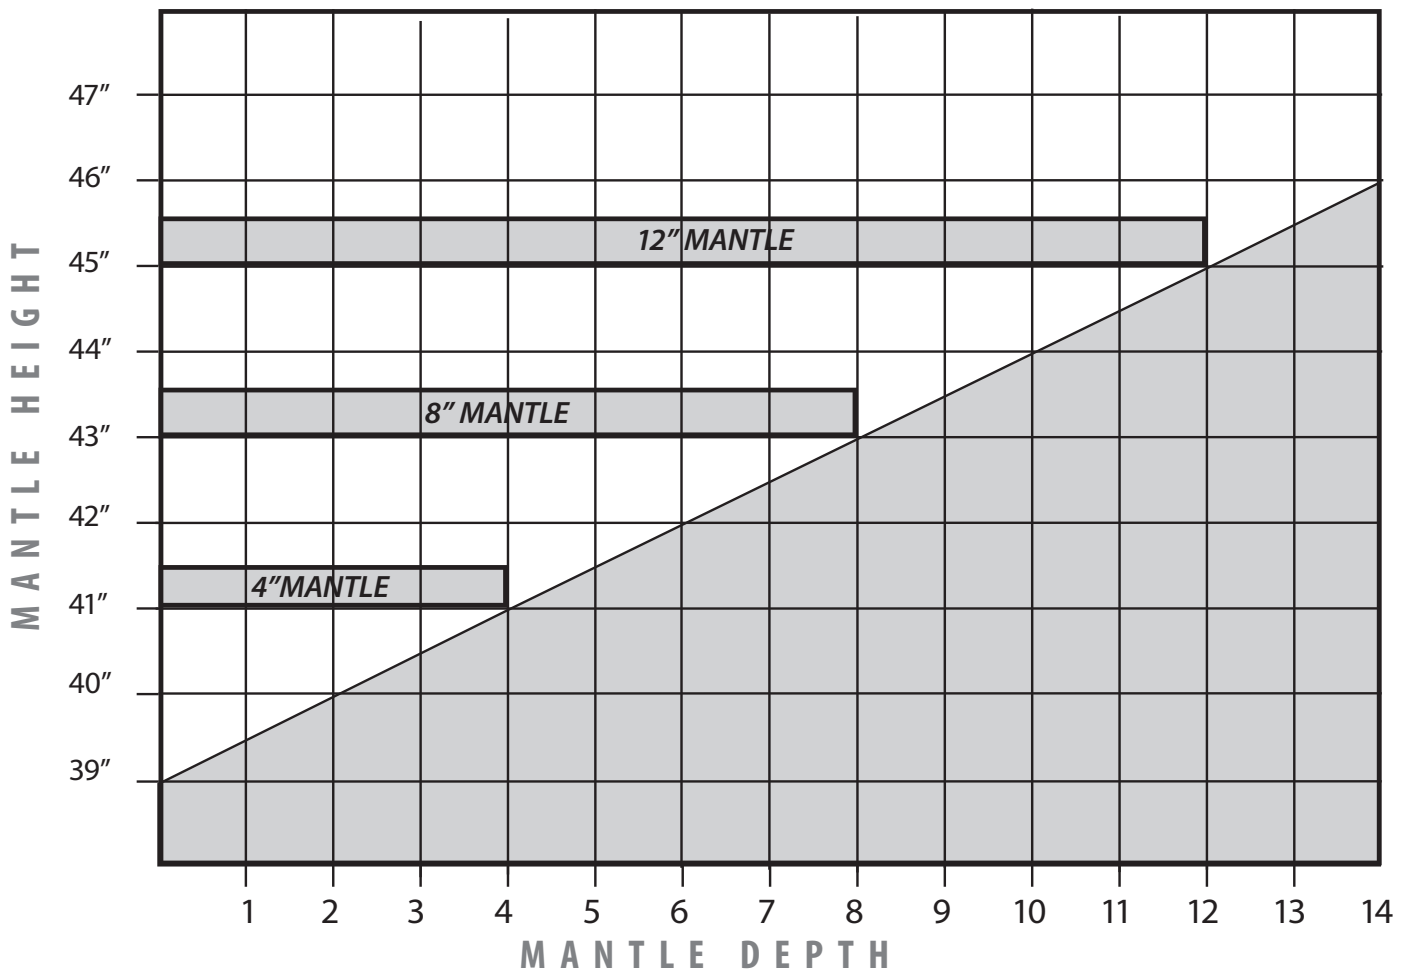
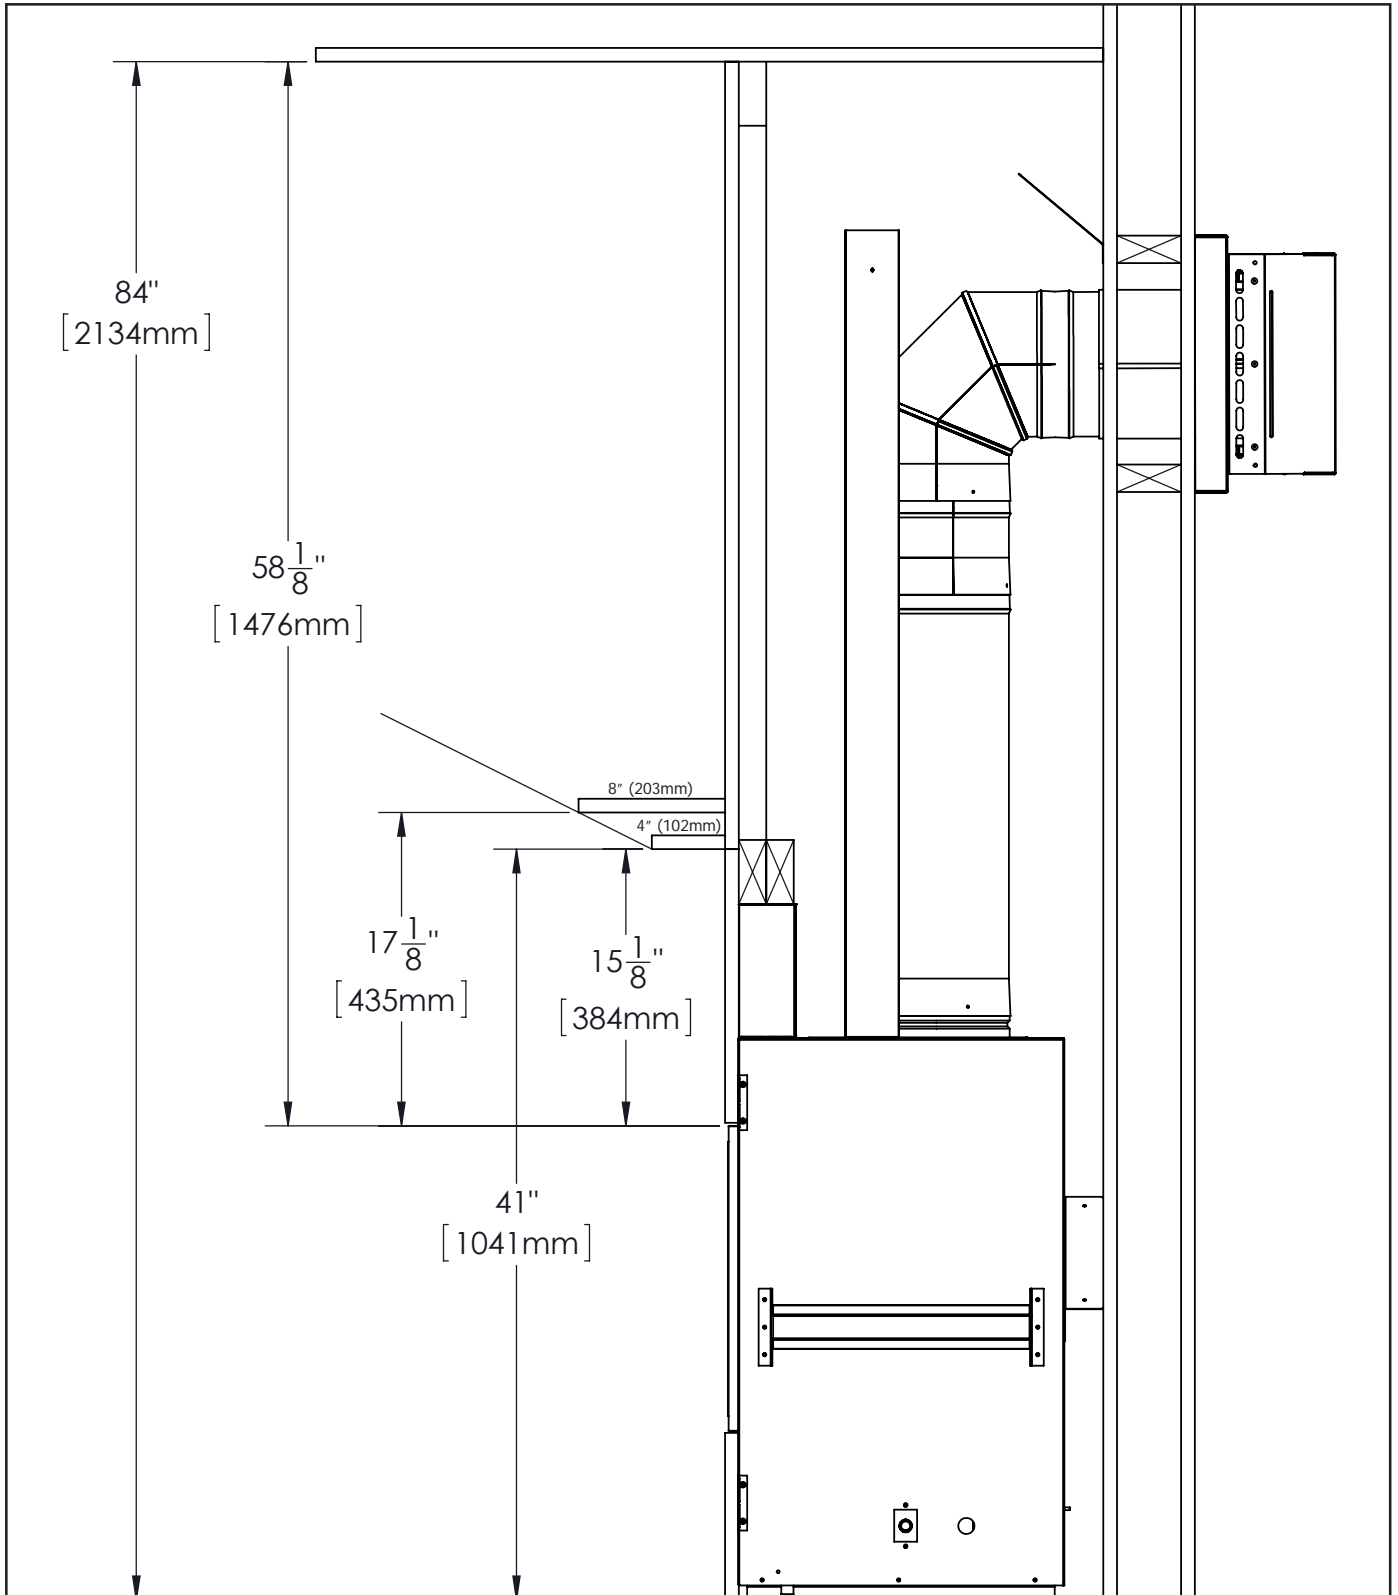
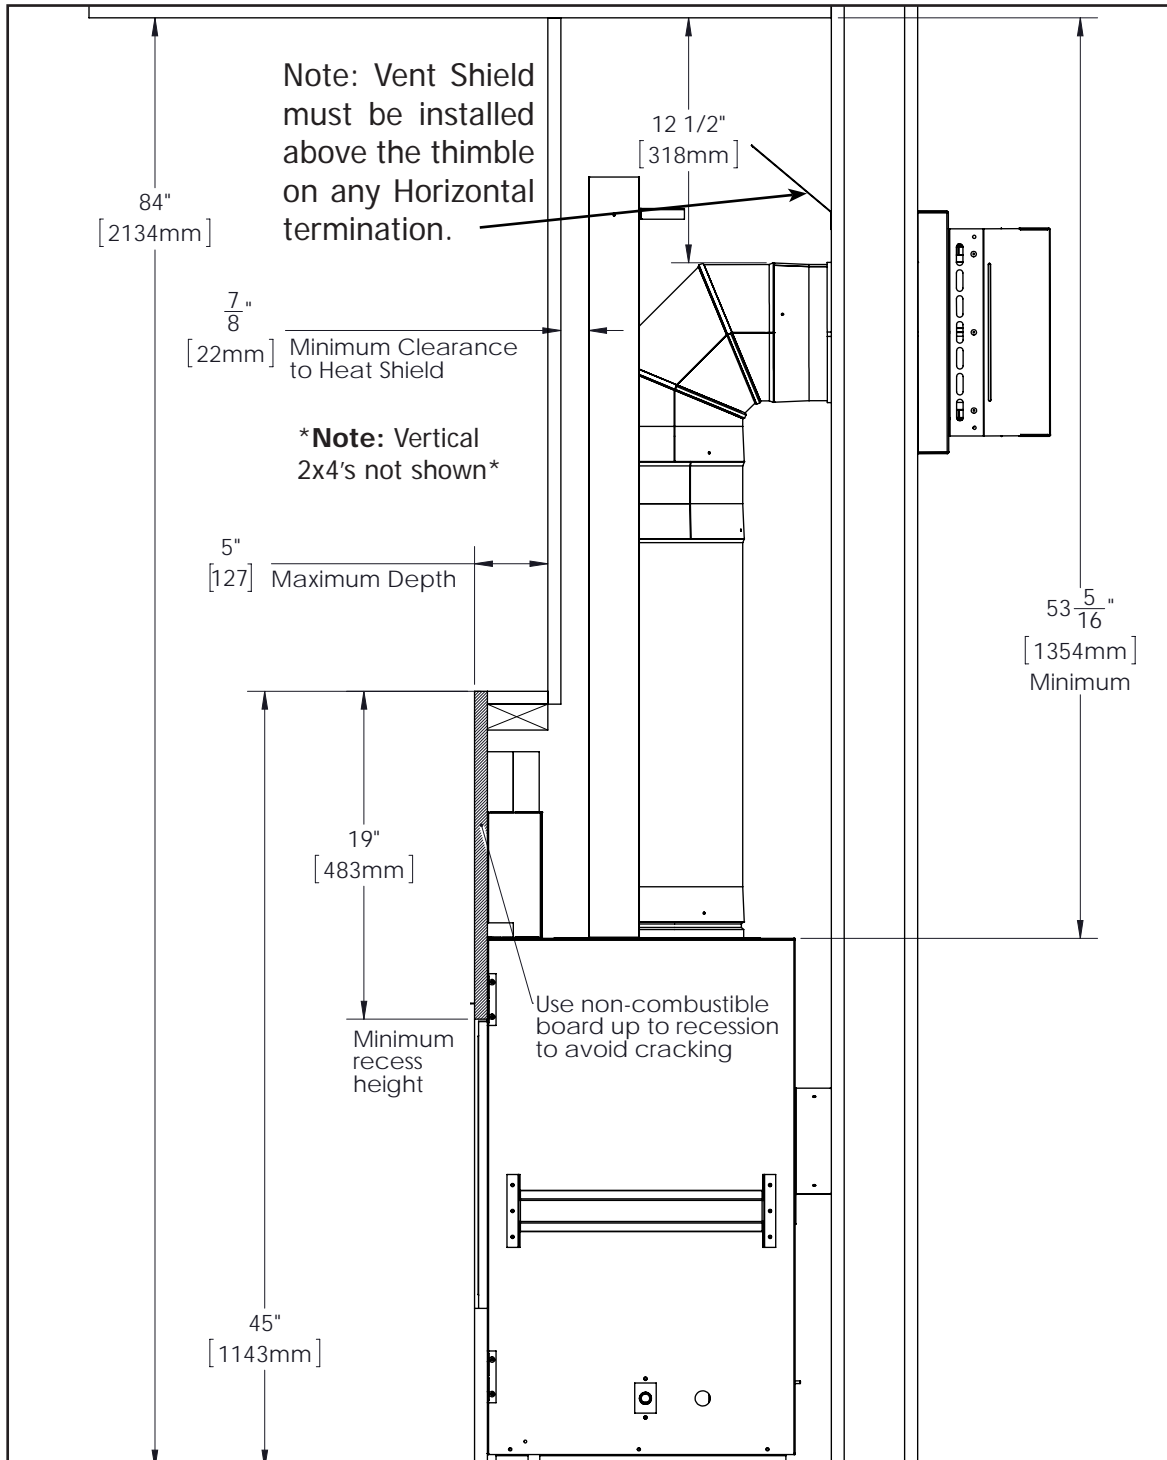
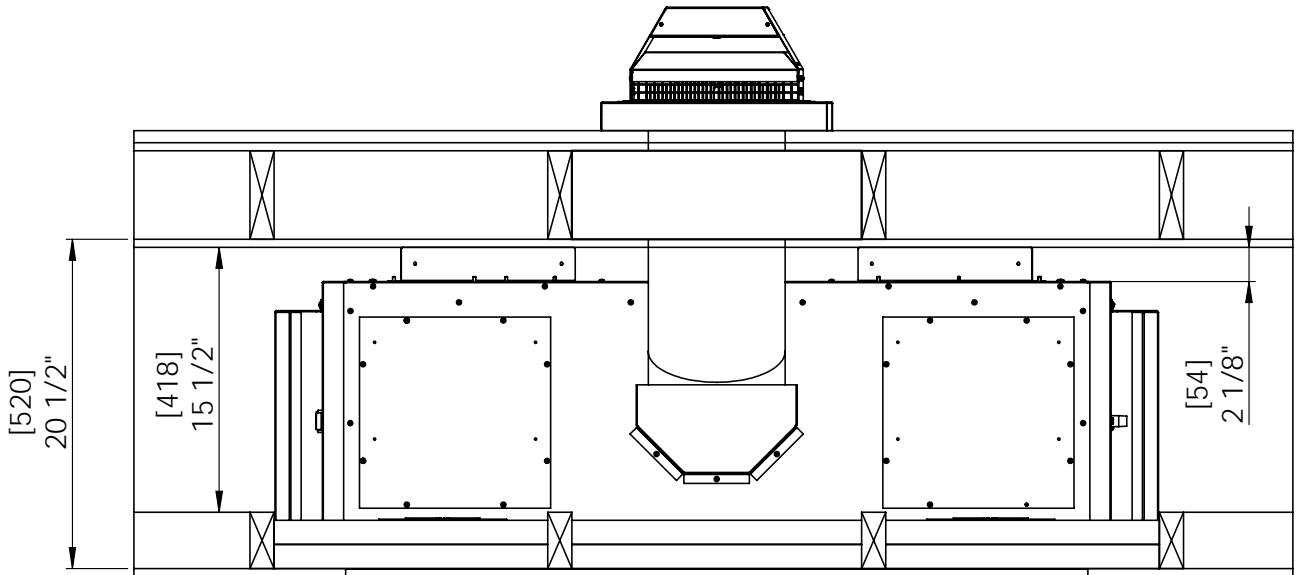

Figure 34: Minimum Mantel Height
Figure 35: Install Dimensions with Mantel
Figure 36: Install Dimensions with Recess
Figure 40: Dimensions for a Horizontal Installation
Refer to Figure 34 & Figure 35 for a combustible mantel installation, measurement is from bottom of the unit to the bottom of the mantel.
If adding a mantel to the C721 / C72ID please note the critical dimensions shown in Figure 35. These are minimum dimensions as per certification and must be followed.
Refer to dimensions in Figure 36 if building a recess above the fireplace. Note the dimensions from the finishing edge to the stud below the recess finishing material. The vertical finishing material at the back of the recess must be spaced  $\frac{7}{8}$ " off the vent shield. Also note the dimension from the vent pipe to the internal ceiling this must be maintained if the fireplace is raised.
Figure 40 shows a horizontal vent installation with minimum clearances. The horizontal vent shield must be used when the minimum vent configuration is used. If more than 30" of vertical rise is used the shield should not be installed. The vent to ceiling clearance must be maintained no matter the additional vertical vent height; see Figure 35 and Figure 36. A minimum of 1" clearance on all sides of the vent pipe must be maintained at all time unless specifically stated.
**MANTLE:** It is not necessary to install a mantle, but if one is desired the guidelines as shown in Figure 34 & Figure 35. The minimum clearance from the side of a mantle to wall is 4".